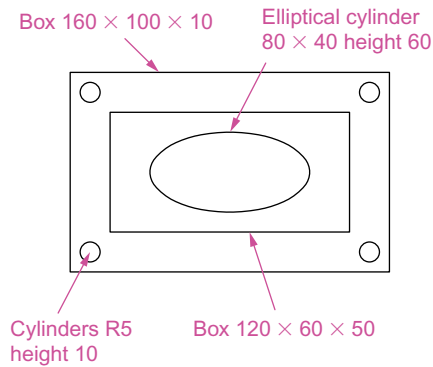
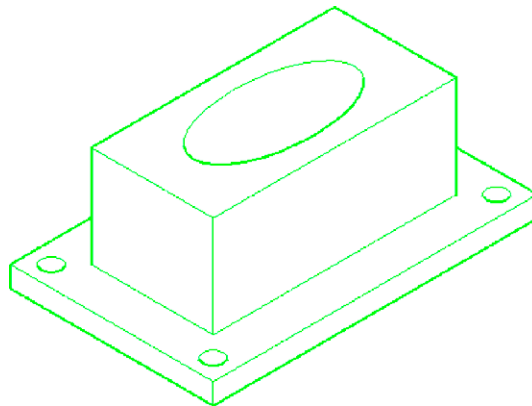

Fig. 12.29 Example – **Chamfer** and **Fillet** – sizes for the model
Fig. 12.30 Example – **Chamfer** and **Fillet** – isometric view – the model before using the tools
3. Working to the sizes given in Fig. 12.29 and using the **Box** and **Cylinder** tools, construct the 3D model (Fig. 12.30).